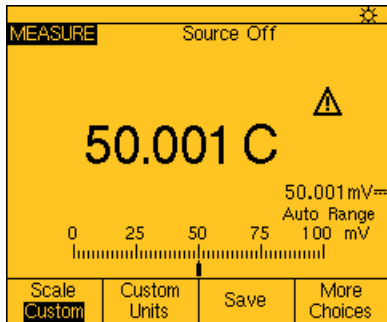

Figure 3.
If the decade relationship between native units (mV DC) and custom units (C) needs to be changed the x10 and ÷10 softkeys will do so. Depress the “Done” softkey and the DPC will now display in units of “C.” Figure 3 shows the DPC configured as described with the transducer measuring 50 °C and the 50 mV output measured by the DPC. The triangular box with the ! inside in the custom unit indication, native units measured continues to be displayed in the “fine print” screen text in the lower right hand corner of the screen.